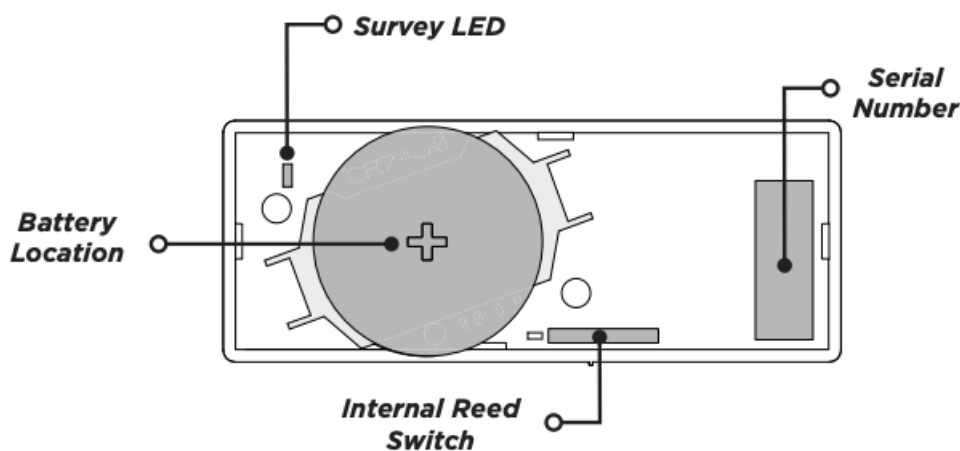

Figure 2: Battery Location and PCB Features
7. Enter the eight-digit **SERIAL#** and press **CMD**. See Figure 2 for the serial number location.
2. Observing polarity, place the battery in the holder with the positive (+) side up. Press it into place. See Figure 2 for the battery location.
2. Move the magnet away from the transmitter to send data to the receiver and determine if communication is confirmed or faulty. See Figure 2 for LED locations.